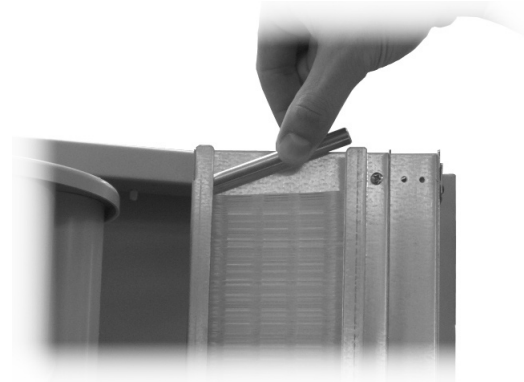

Fig. 61
- When loading is complete, reinsert the metal counterweight (fig.61).